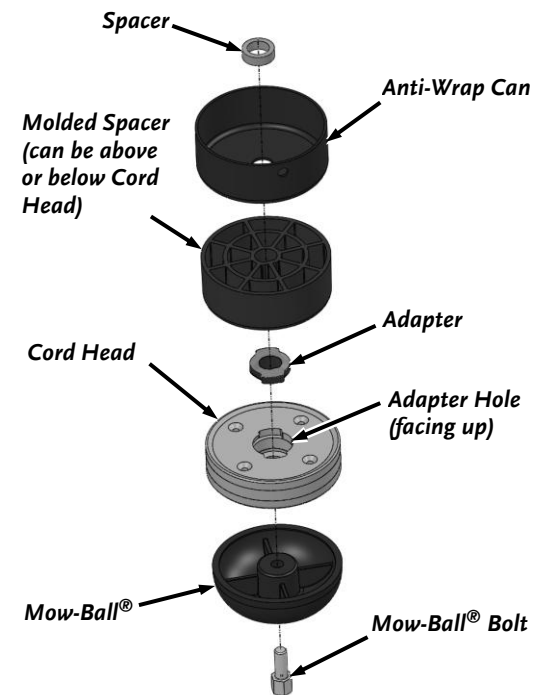

Figure 23
5. Slide the Cord Head, Adapter and Molded Spacer off the Shaft (**Figure 23**).